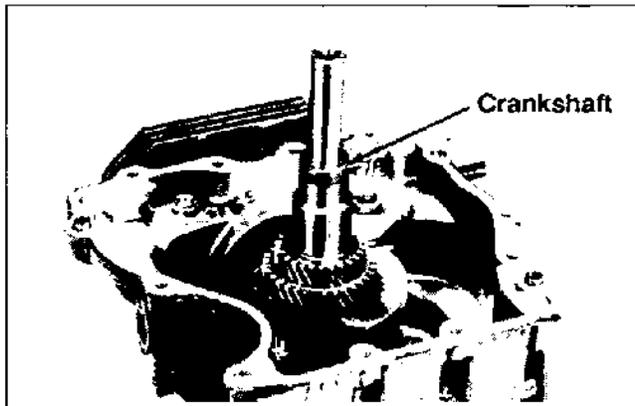

Figure 11-5. Installing Crankshaft.
2. Insert the crankshaft through the flywheel end bearing. See Figure 11-5.